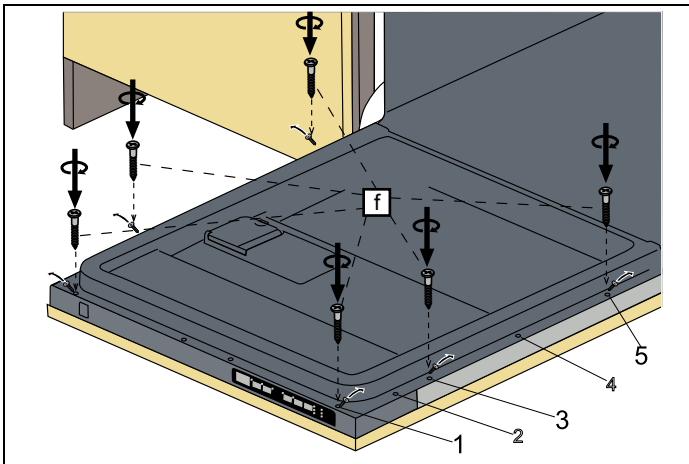

Fig. 27
6) The screws located on the wooden door are fitted to the dishwasher at the discharges located on the door outer sheet and are assembled as shown in Fig. 27.
7) As shown in Fig. 27, Screws $\text{Ø}5/32" \times 53/32"$ ($\text{Ø}4\text{mm} \times 42.5\text{mm}$) are installed in positions I, III and V.